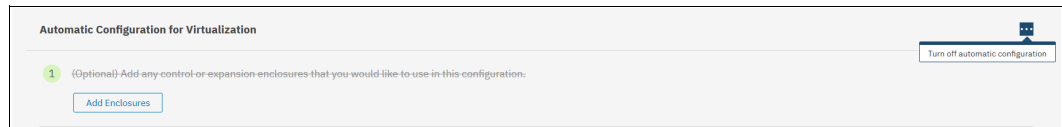

Figure 3-44 Automatic Configuration wizard: Add Enclosure
1. Add control or expansion enclosures to the system that are not added yet. Click **Add Enclosure** to start the adding process, or click **Skip** to move to the next step. You can turn off the Automatic Configuration for Virtualization wizard at any step by clicking the ... (hamburger) symbol in the upper right, as shown in Figure 3-44.